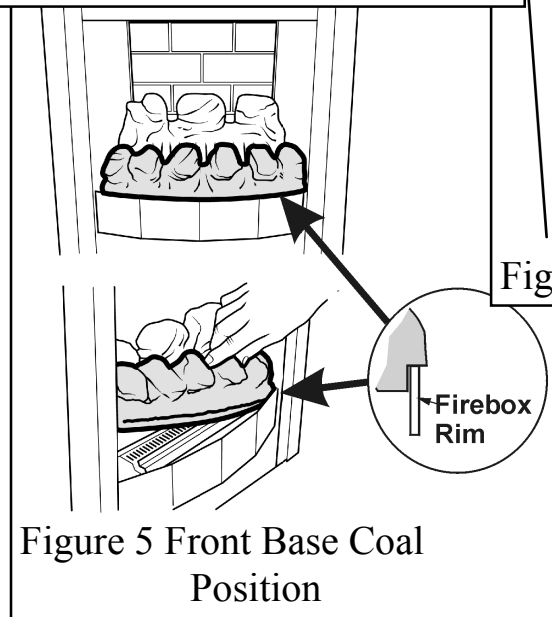

Figure 5 Front Base Coal Position
4. Place the front base coal in the firebox with its bottom front locating over the front rim of the firebox. Pull the coal forward so that it locates immediately behind the front rim of the firebox. See figure 5.